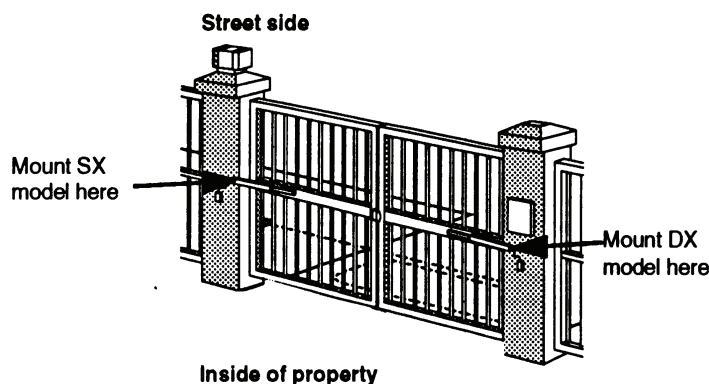

Figure 2. Mount the proper model (SX or DX) on the gate leaf whether the gate swings inward or outward.
- (1) Control panel enclosure with control panel and photobeams inside (only 1 per kit).
- (2) 412 Operator units. One is marked SX and one is marked DX. Be sure to install each on the proper gate leaf (see Figure 2).
Figure 2 (page 5) shows a biparting gate from the side where the operators are mounted. The operator attached to the hinge on the left of the gate must be an SX model. If the hinge is on the right side, the DX model must be installed.